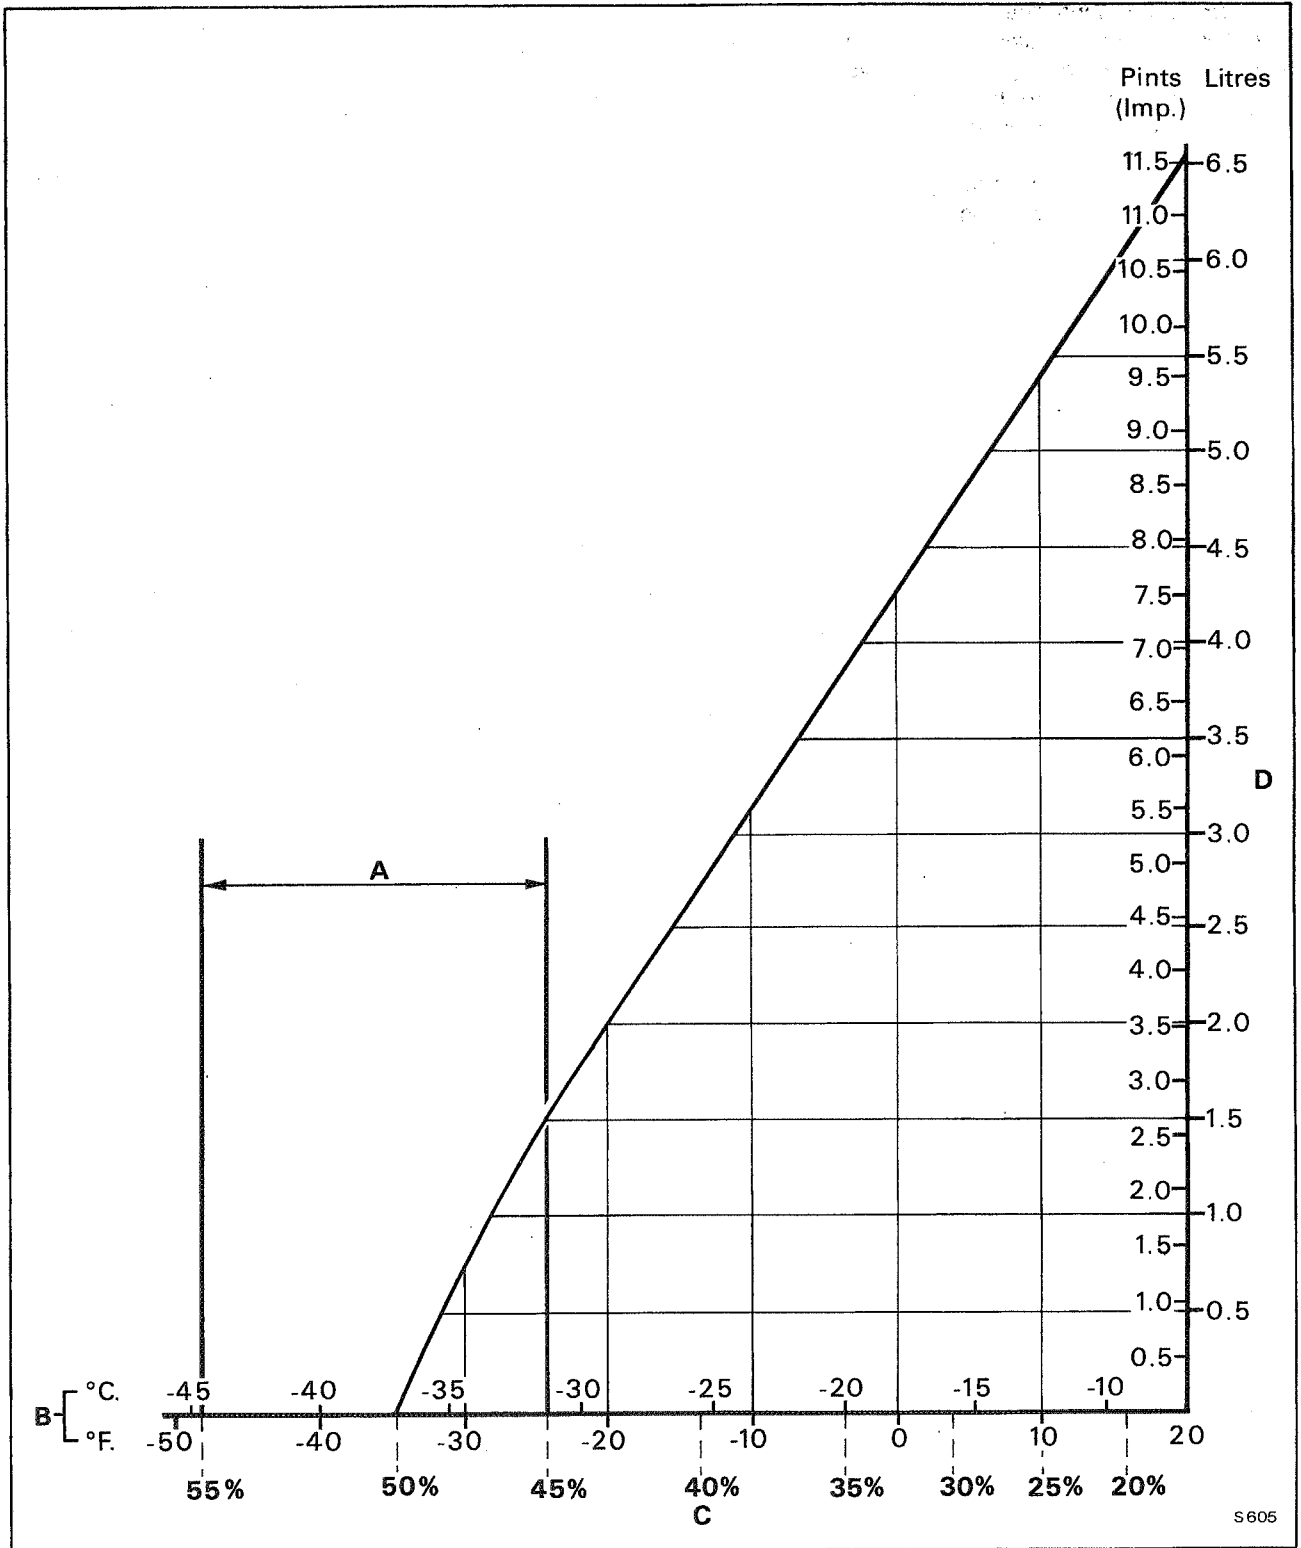

Fig. L3 Anti-freeze concentration correction chart to give a 50% solution
The graph (see Fig. L3) shows the degrees of frost protection converted to a percentage concentration. Should the system be less than the acceptable limit, the graph indicates the necessary amount of coolant to be drained from a full system before replacing with 100% anti-freeze.
2. Remove the filler cap and check that the solution now measures within the range shown on the graph (see Fig. L3). Rectify if necessary.